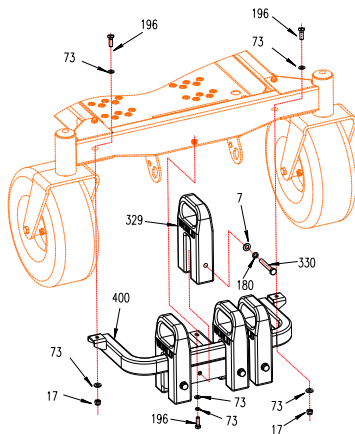

FIG 9
**Note:** The number of weights can be adjusted as needed to offset weight of grass in bag. (FIG 9)